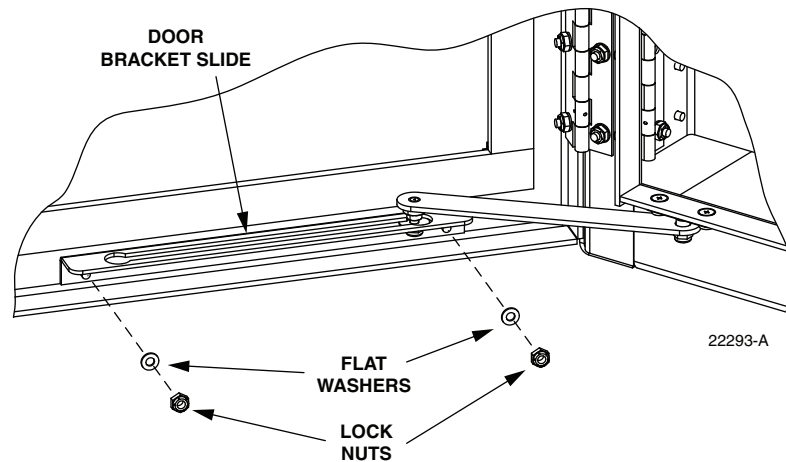

Figure 50. Door Bracket Slide Hardware
2. Use a 3/8-inch nut driver to remove the locking nuts and washers that secure the door bracket slide to the bottom edge of the door as shown in Figure 50. Save the nuts and washers for reuse.